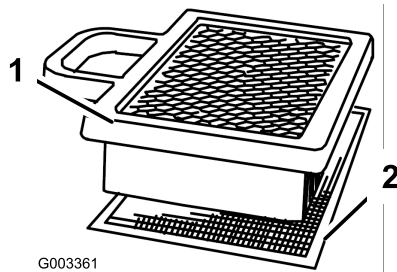

Figure 21
4. Carefully remove the air cleaner assembly and foam element from the housing (Figure 21).
2. Align the tabs on the air cleaner cover with the slots of the blower housing (Figure 21). Move the cover into place and secure it with the knobs removed previously.